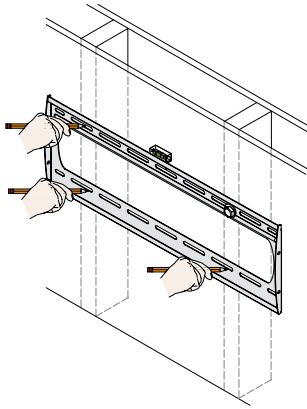

Figure 9. Marking the Remaining Mounting Locations
11. Use a pencil (not included) to mark the remaining three mounting locations along the center of each wall stud (Figure 9).